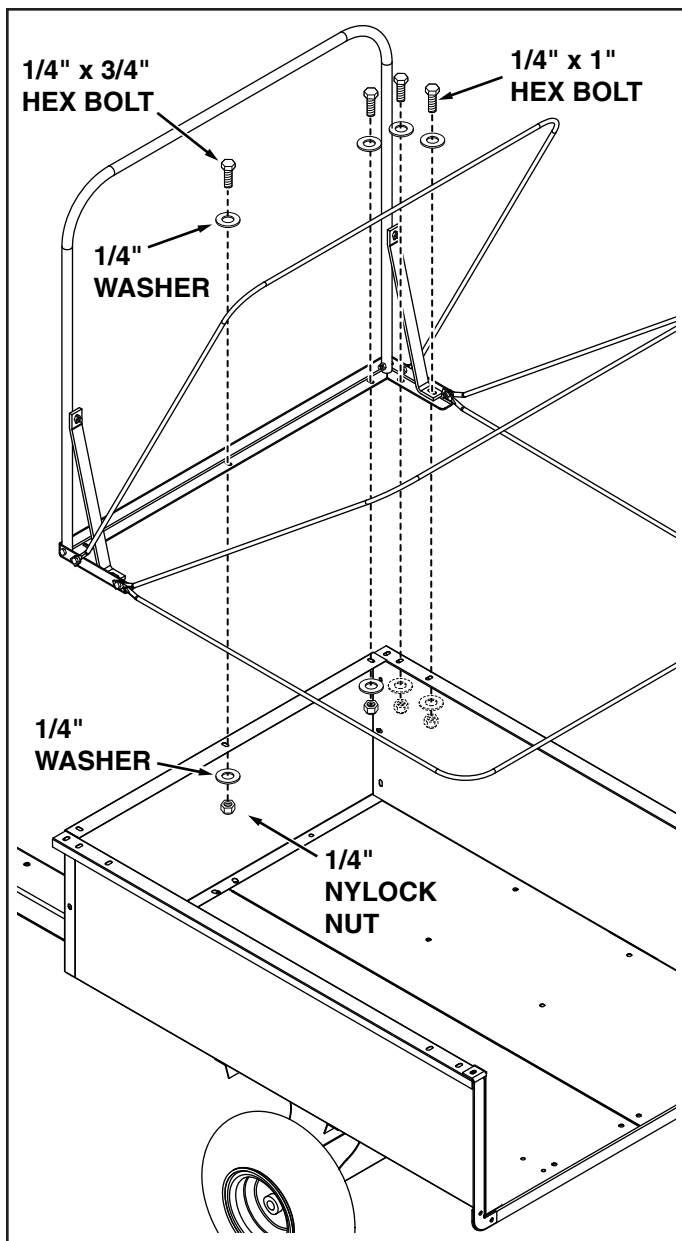

FIGURE 27
11. Place the top angle support and cart bag on top of the cart as shown in figure 27. Then, using a screwdriver or other sharp object, poke holes through the cart bag for the bolts that will be assembled in step 12.
12. Attach the top angle support and braces to the cart using seven 1/4" x 3/4" hex bolts, fourteen 5/16" washers (one placed on each side) and seven 1/4" nylock nuts. **DO NOT TIGHTEN YET.** See figure 27.